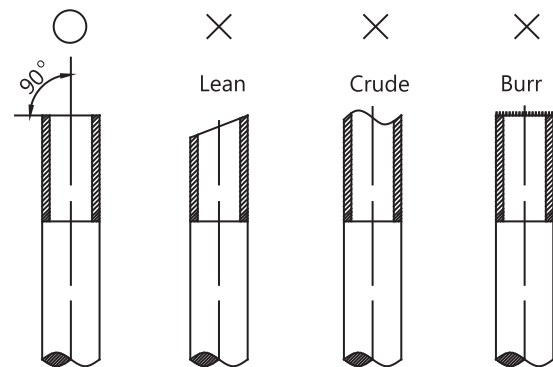

Fig.10-1
4. Cut the selected pipe with pipe cutter making the section flat and smooth. Refer to **Fig. 10-1**